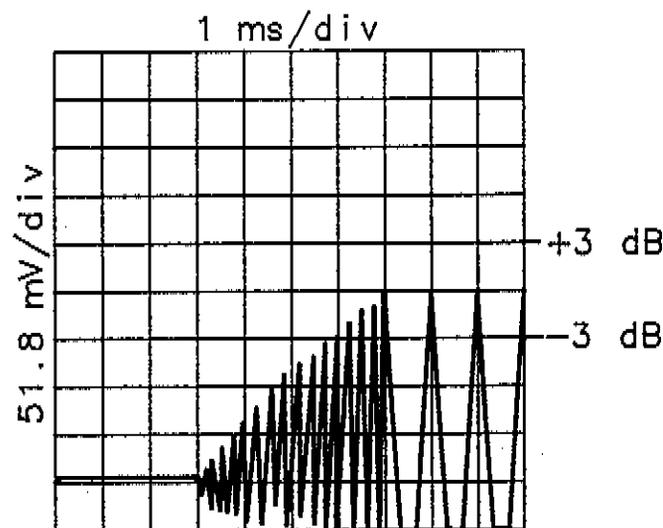

Figure 4-10. Amplitude Recovery Measurement Waveform
27. Press the digitizer (STORE M1) key on the oscilloscope and step the Signal Generator to the stop frequency with the **FREQ INCREMENT** key. The oscilloscope should digitize the switching waveform as the frequency changes. The waveform should now look like that shown in Figure 4-10.